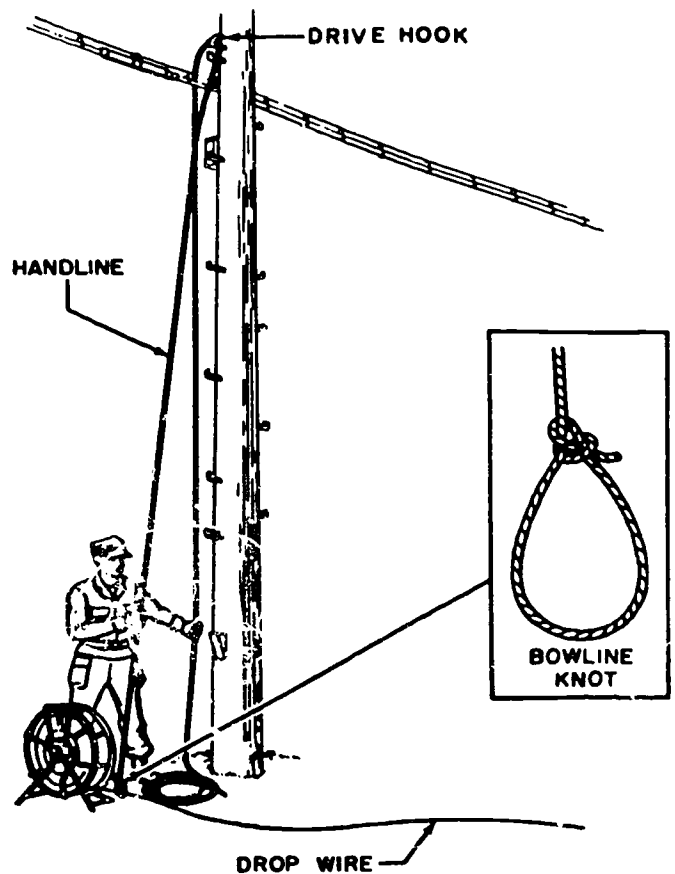

Figure 4-2. Raising drop wire.
h. Take up the free end of the handline and slowly raise the drop wire to the drive hook or suspension strand (fig. 4-2).